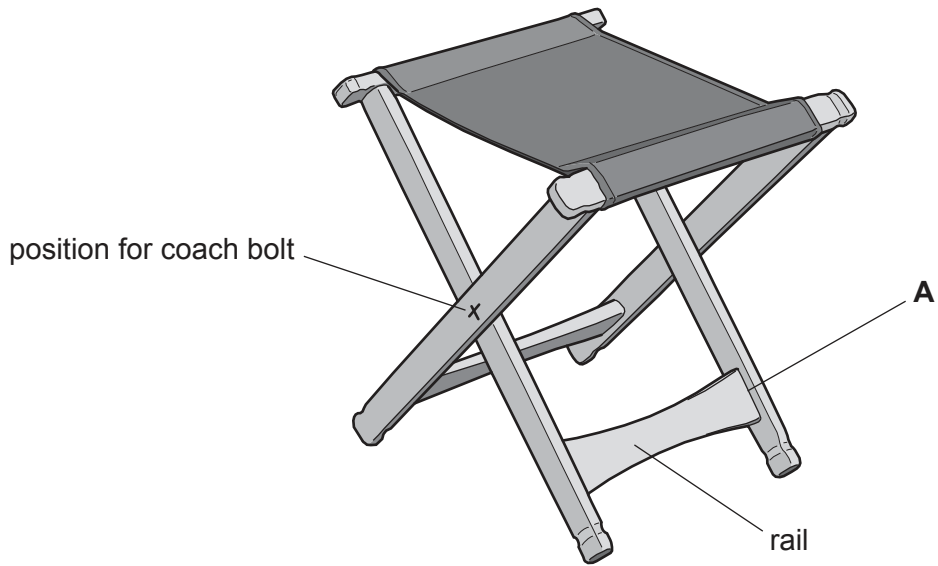

Fig. 12.1
- 12 Fig. 12.1 shows a folding stool made from hardwood with a fabric seat. The stool will be used outdoors.
(c) Sketch and name a suitable construction that could be used to join the rail to the leg at **A** in Fig. 12.1.
Describe **one** benefit of using this type of fitting to join the legs together at the position shown in Fig. 12.1.